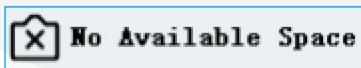

Figure 6-2
2. When "insufficient available space" is displayed while pressing the snap button, recording videos, and taking photos at a fixed time (figure 6-2): please sort out the micro SD card space on the computer before inserting the card for use